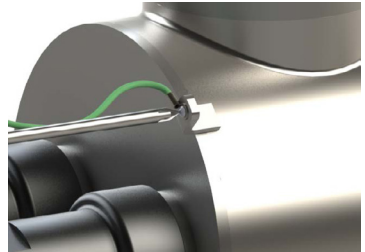

Figure 10. Ground Screw
**Step 9:** Affix the ground wire to the ground lug on the UV reactor to ensure proper grounding continuity (see Figure 10).